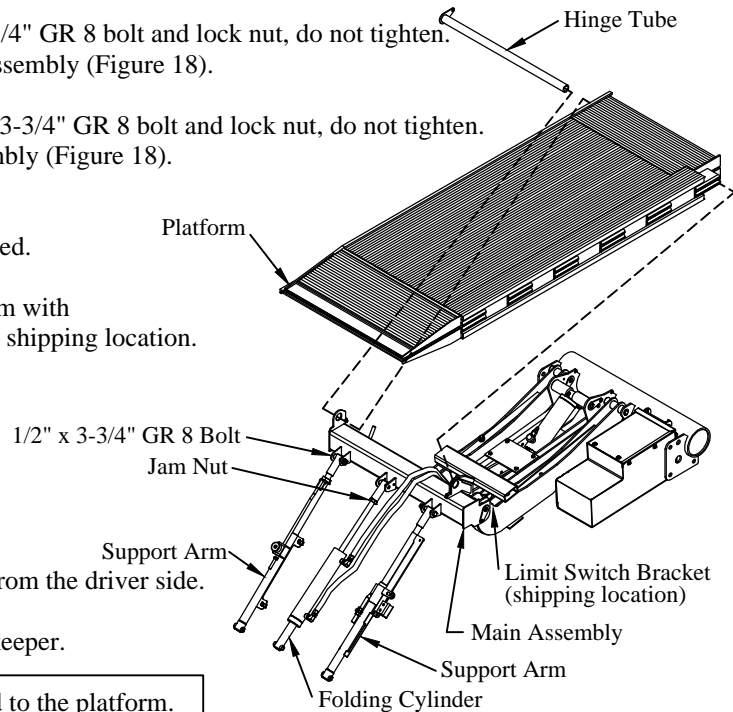

Figure 18: Platform parts location.
- 1. Install** the support arms on the main assembly, using a 1/2"x3-3/4" GR 8 bolt and lock nut, do not tighten. The threaded end of the support arm goes toward the main assembly (Figure 18).
- 2. Install** the folding cylinder on the main assembly, using a 1/2"x3-3/4" GR 8 bolt and lock nut, do not tighten. The threaded end of the cylinder goes toward the main assembly (Figure 18).